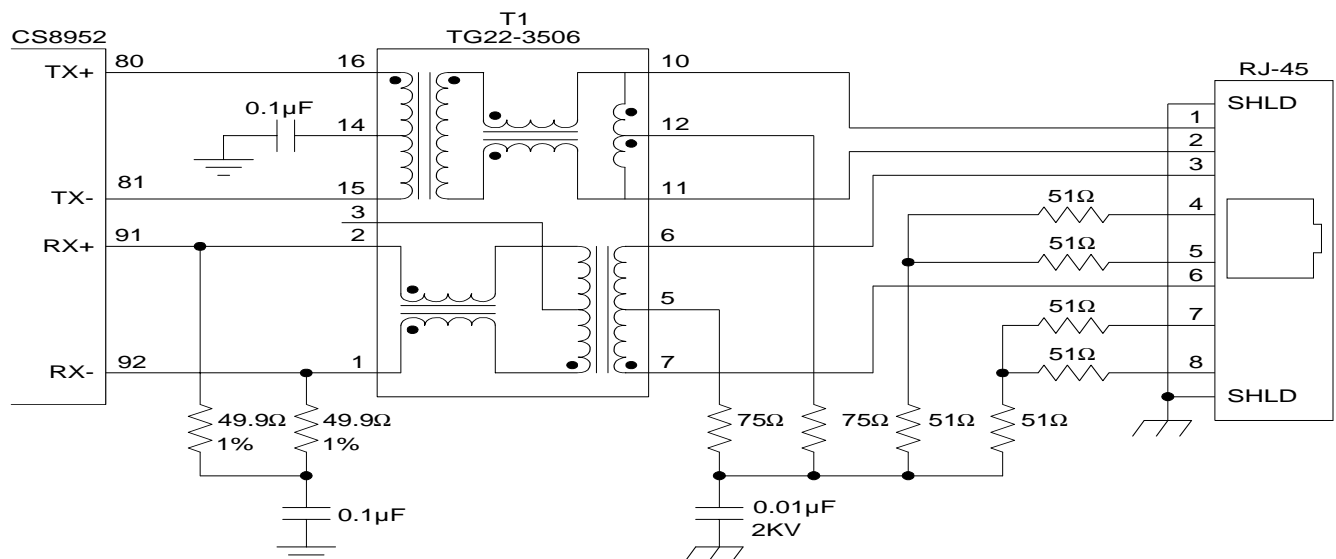

Figure 6. Recommended Connection of Twisted-Pair Ports (Network Interface Card)
The recommended connection of the twisted-pair interface is shown in Figure 6. The unused cable pairs are terminated to increase the common-mode performance. Common-mode performance is also improved by connecting the center taps of the RX and TX input circuits to the DC-isolated ground plane. The 0.01 μF capacitor C1 must provide 2KV (1,500 Vrms for 60 seconds) of isolation to meet 802.3 requirements. If a shielded RJ45 connector is used (recommended), the shield should be connected to chassis ground.
- Figure 6 shows the CS8952T in a NIC or adapter configuration. It may be configured for a hub or repeater application by changing the wiring to the RJ-45 as shown in Table 11.